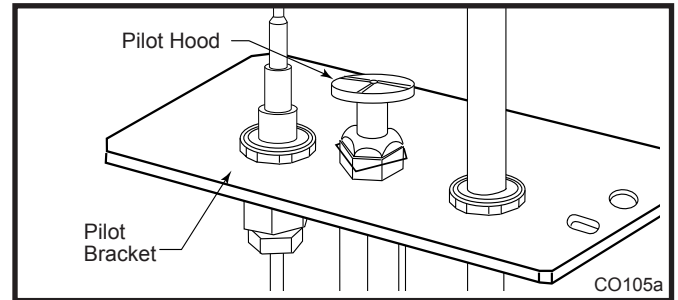

Fig. 78 Remove pilot hood.
3. Remove pilot hood by lifting up. (Fig. 78) Do not remove the snap ring to remove the pilot hood.